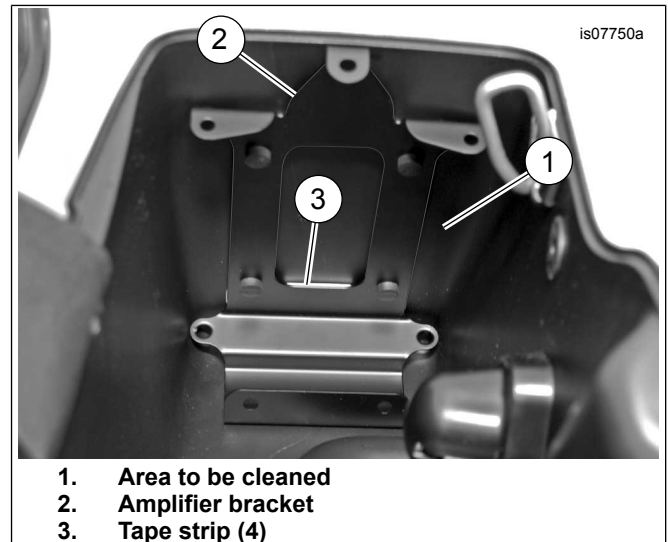

Figure 5. Amplifier Bracket Installation
5. See Figure 5. Clean the inside rear and bottom surfaces of the saddlebag with a 50-50 mixture of isopropyl alcohol and distilled water.